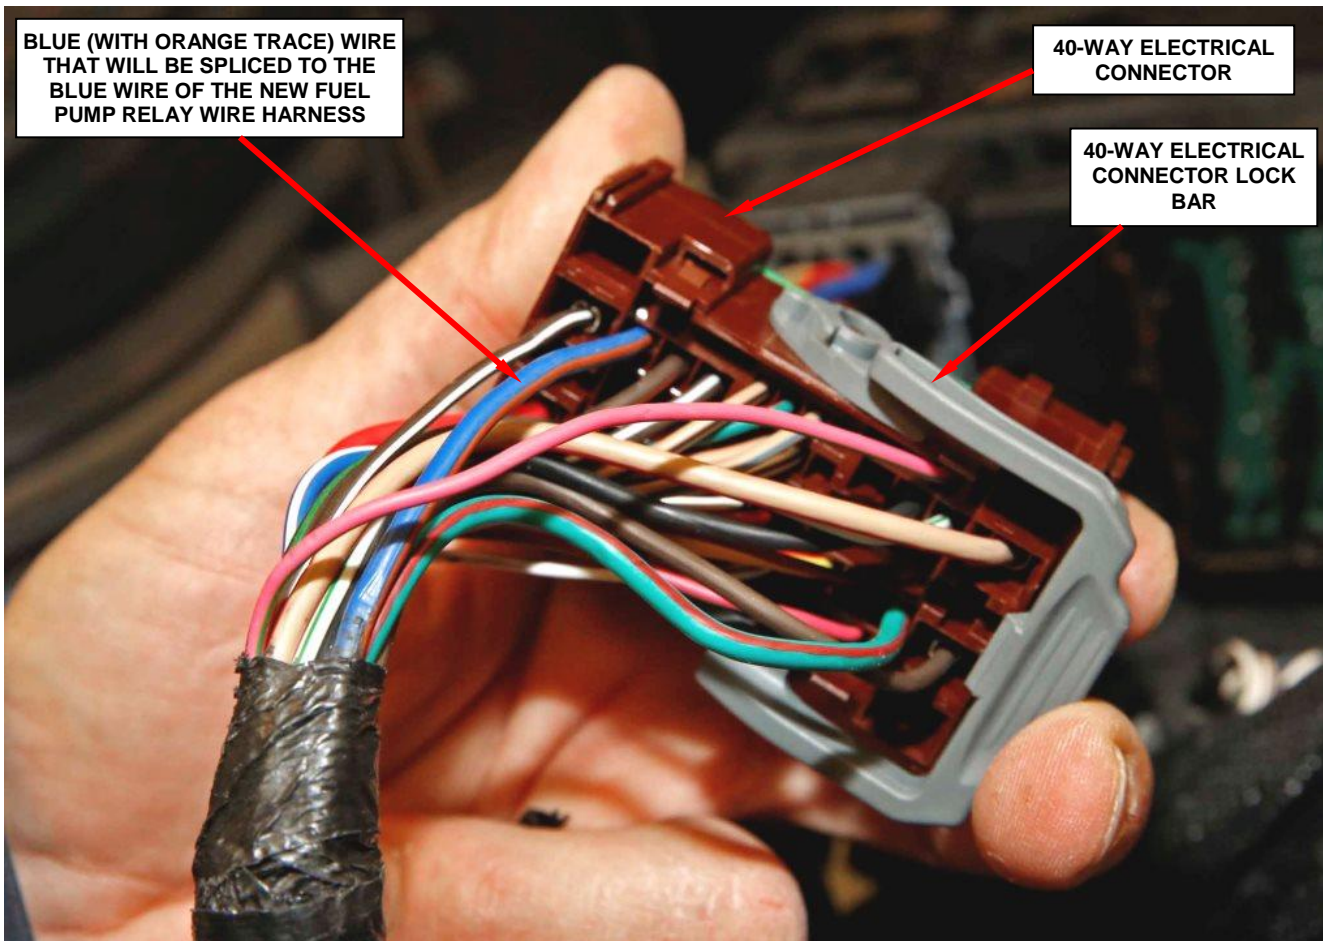

Figure 12 - Locate Blue with Orange Trace Wire in 40-Way Connector
15. Locate the blue (with an orange trace) wire in the 40-way electrical connector (Figure 12).